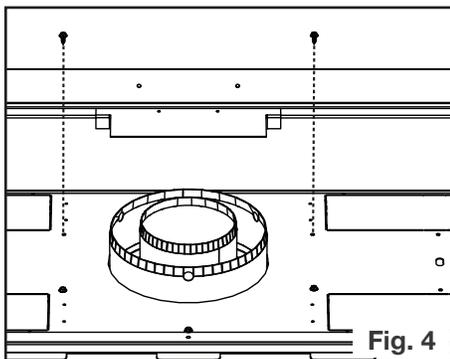

Fig. 4
4. Unscrew the fasteners as shown in Figure 4. DO NOT DISCARD FASTENERS.